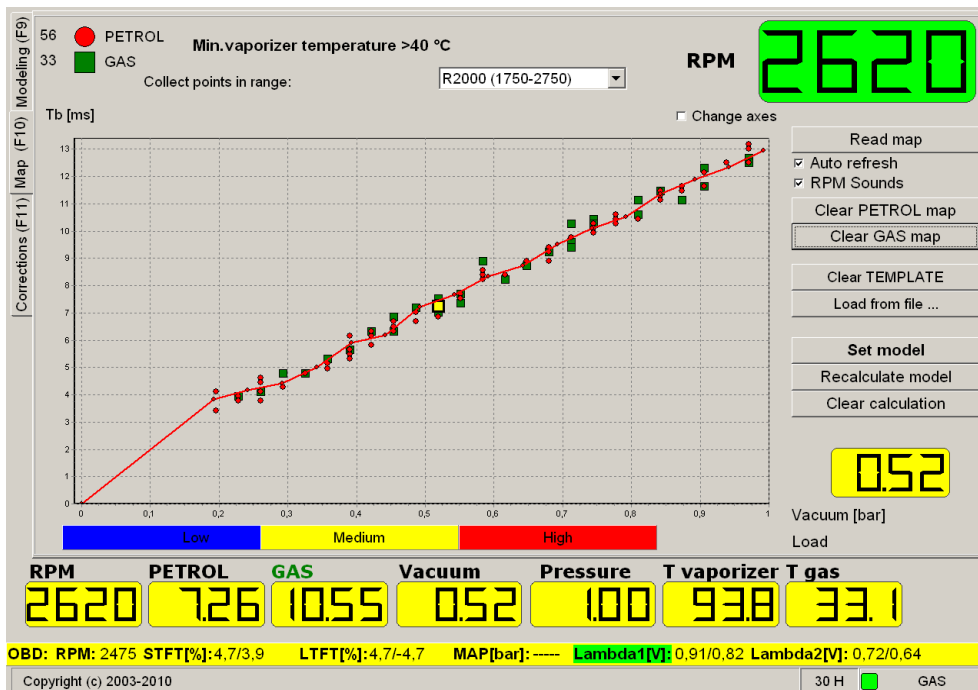

Figure 3.45: Gas map covering petrol map
- 11) Procedure should be repeated until petrol and gas maps covers completely (like on figure 3.45).